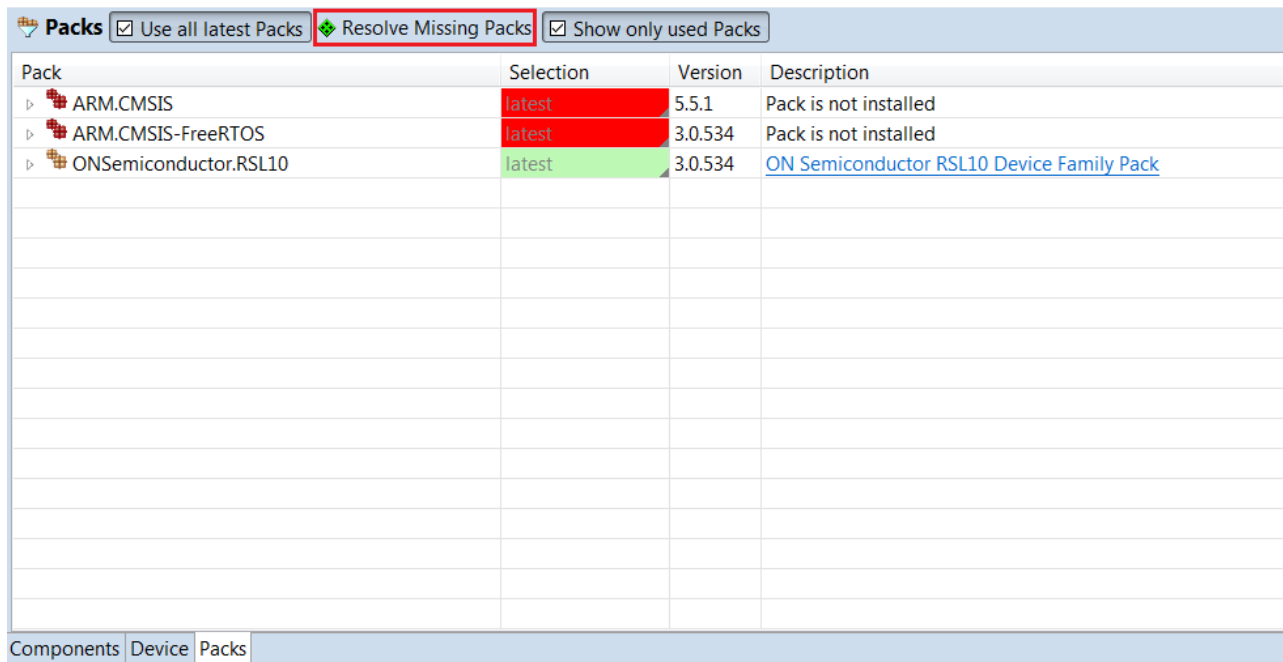

Figure 42. Resolve Missing Packs Icon
- Open the *.rteconfig file; in the Packs tab, select the **Resolve Missing Packs** button (see the figure "Resolve Missing Packs Icon" (Figure 42)).